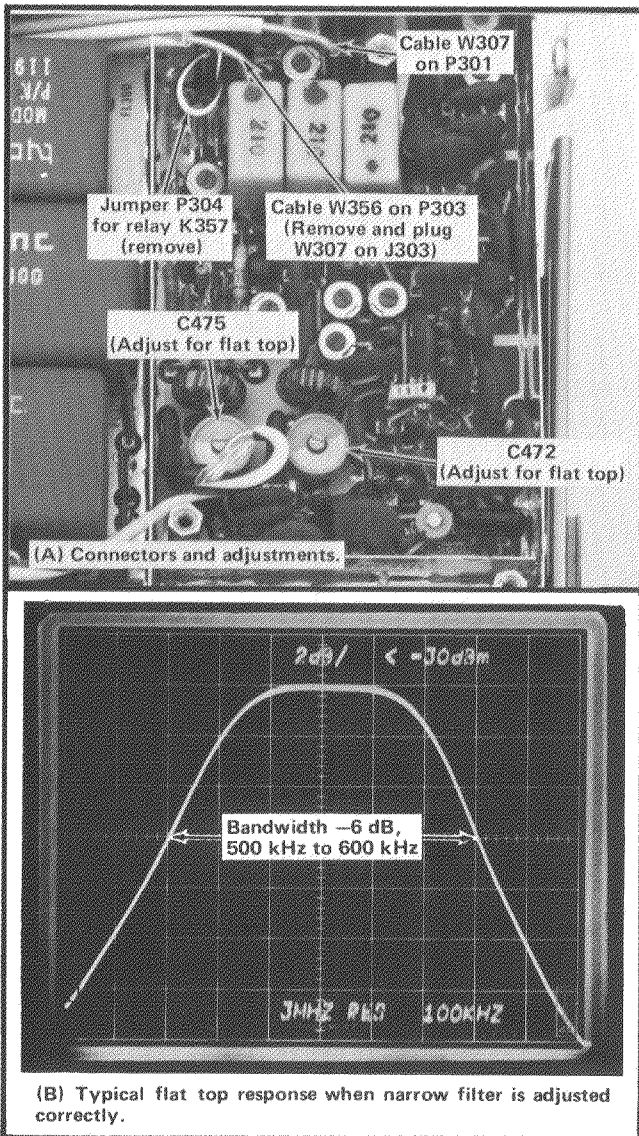

Fig. 4-17. Connections, adjustments, and typical response when adjusting the narrow post amplifier filter.
d. Adjust the 105 MHz IF amplifier, and the wide filter bandpass characteristics; with C82, the 3 MHz helical resonator, (Fig. 4-14) and C456, in the filter circuit (Fig. 4-15) for a response that is similar to the illustrated in Fig. 4-17.